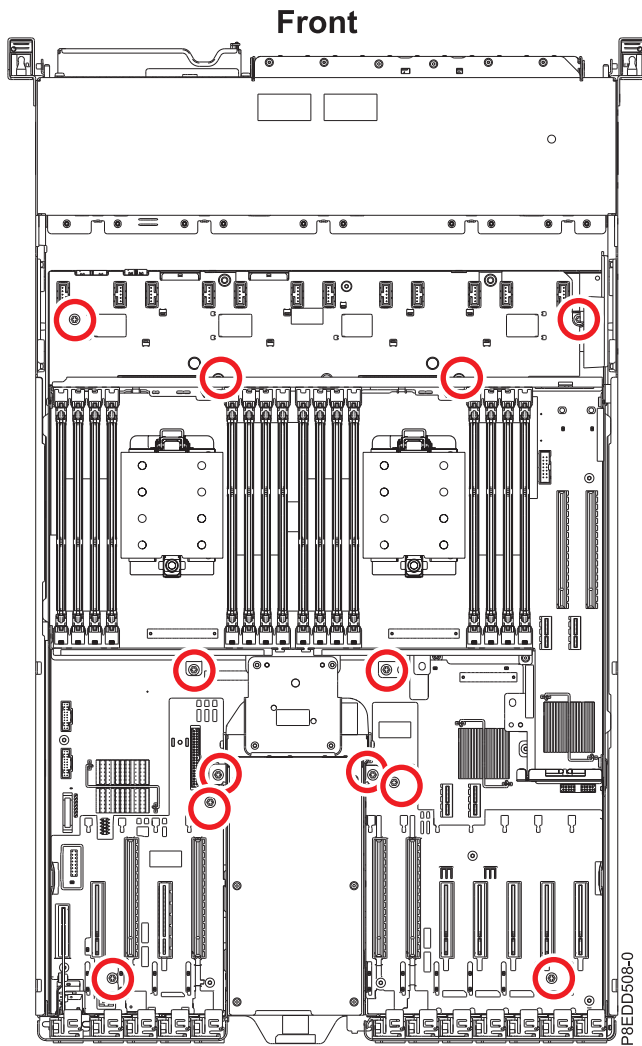

Figure 11. System backplane screw locations
- a. Using a Phillips screwdriver, unscrew and remove 12 screws (A) that mount the backplane to the chassis as shown in Figure 11 on page 14.